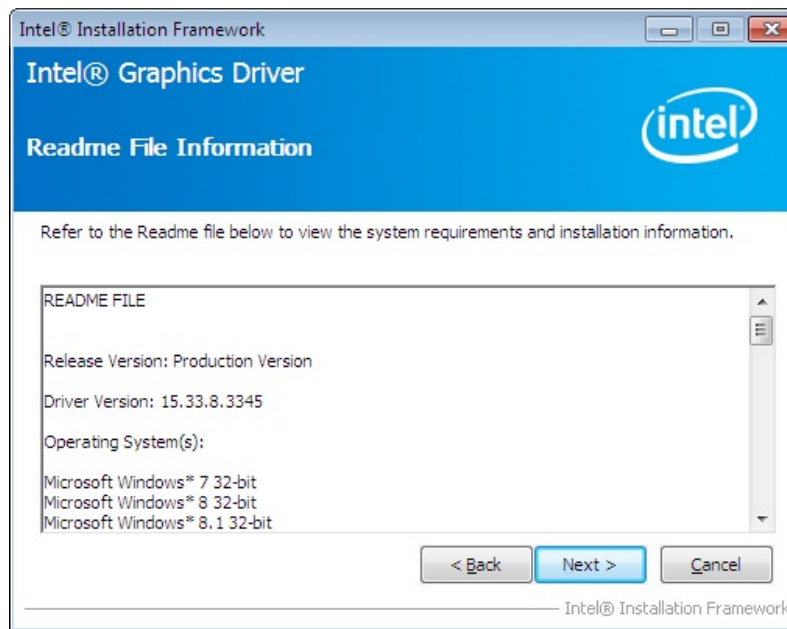

Figure 6-11: VGA Driver Readme File Information
Step 10: The **Readme File Information** screen in **Figure 6-11** appears. Click **Next** to continue.